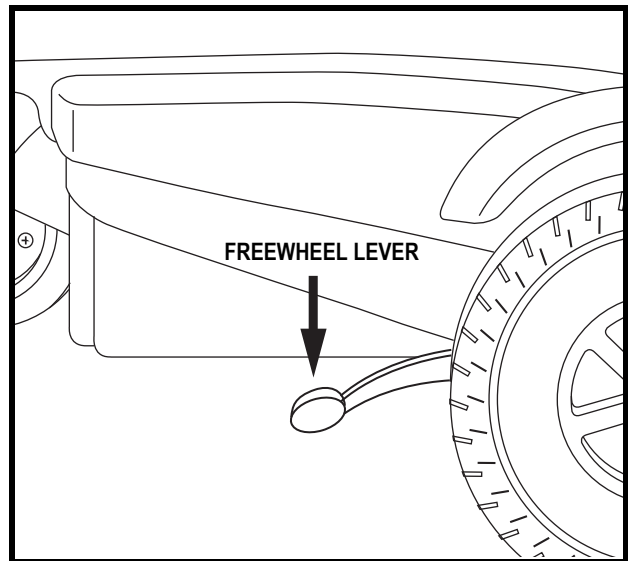

Figure 12. Freewheel Mode (Drive Disengaged)
3. Push both levers downward to disengage the drive motors (freewheel mode). See figure 12.